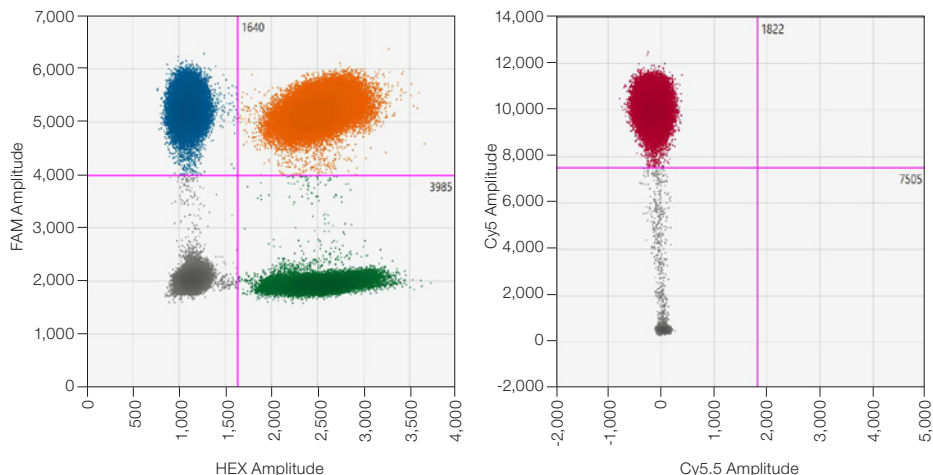

Fig. 14. Example of crosshair thresholds for the ESR1 wild-type assay.
3. Examine the wild-type negative control samples. A positive cluster for the IC is expected. For the other channels, the only cluster present should be the negative cluster, with a minimal number of droplets that stray far from the negative cluster. Refer to Figure 14 for an example 2-D plot for one wild-type negative control well. Tolerance to positive droplets should be determined by the end-user.